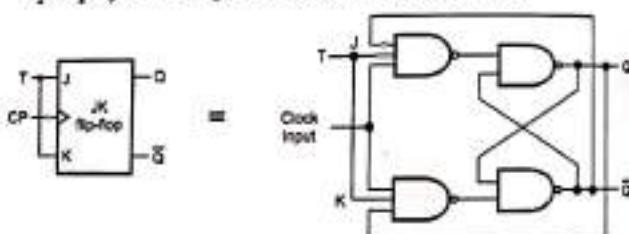

Fig. Q.60.1 T flip-flop using NAND gates
- As shown in the Fig. Q.60.1, the T flip-flop is obtained from a JK flip-flop by connecting both inputs, J and K together.